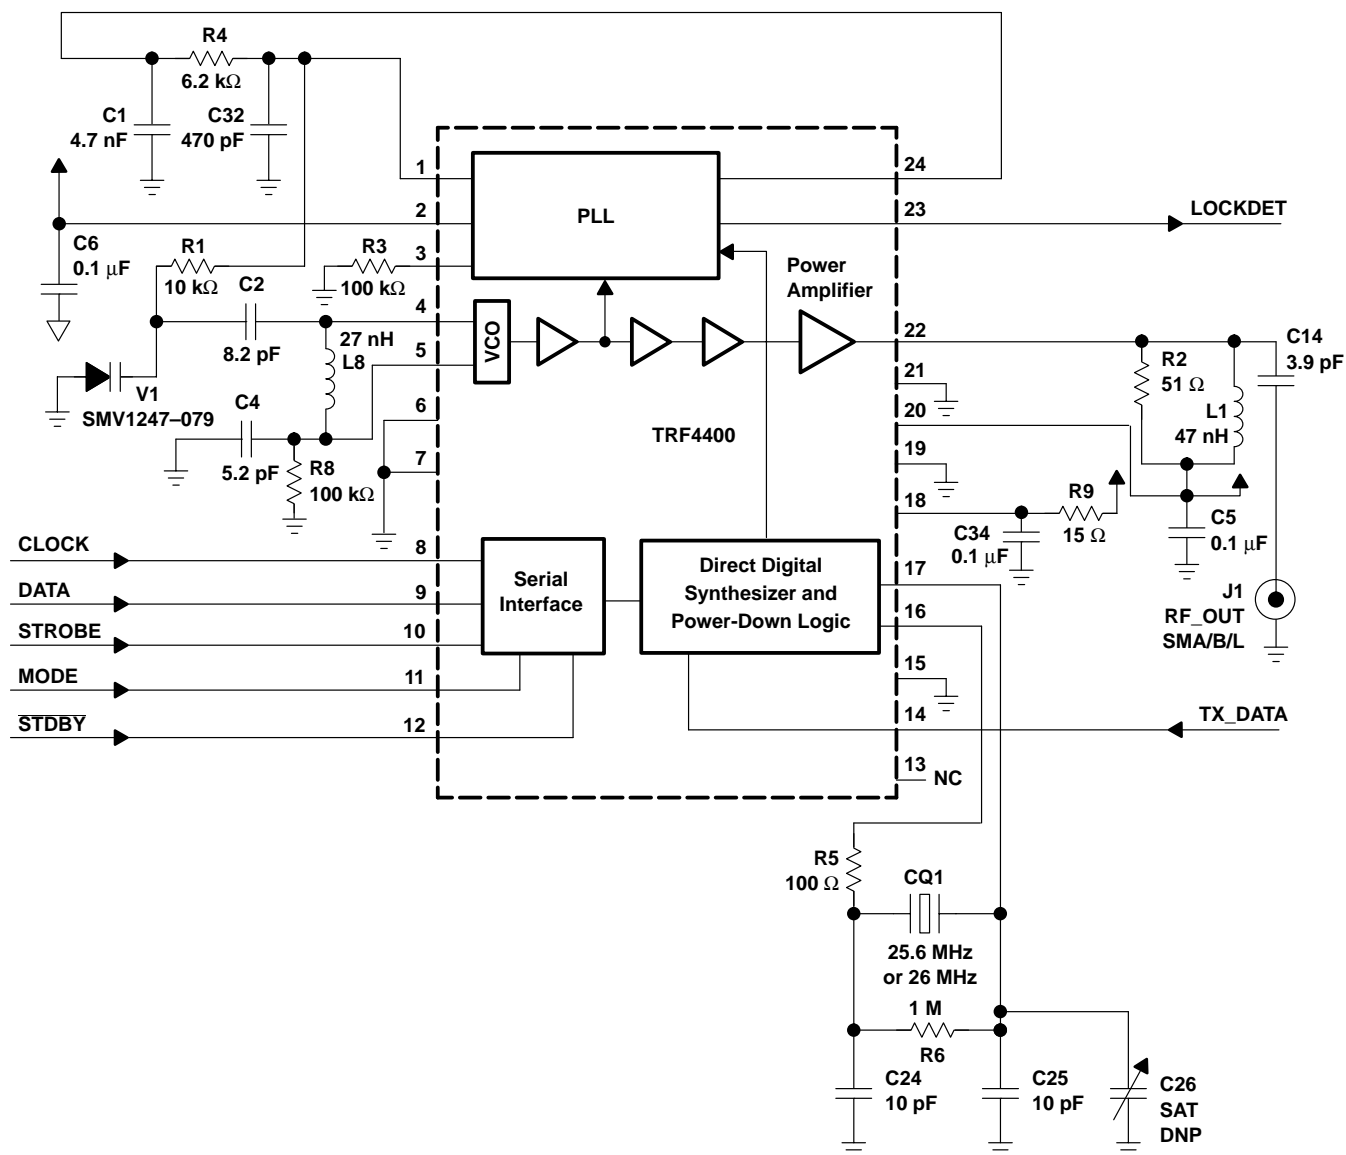

Figure 15. Typical Application Schematic for 433-MHz ISM Band
A typical application schematic for an FSK system operating in the 433-MHz ISM band as shown in Figure 15.
**external component list for Figure 15 (5% tolerance unless otherwise noted)**